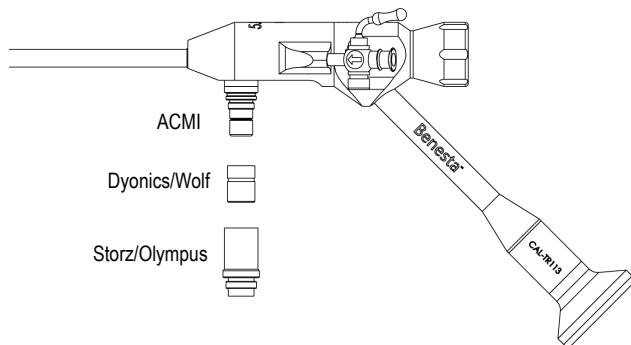

Figure 5. Light-post adapters
1. Ensure the light-post adapter installed on the hysteroscope is compatible with the intended light source. Adapters are available for connection to Storz, Olympus, Dyonics, Wolf, and ACMI light sources as shown in Figure 5.